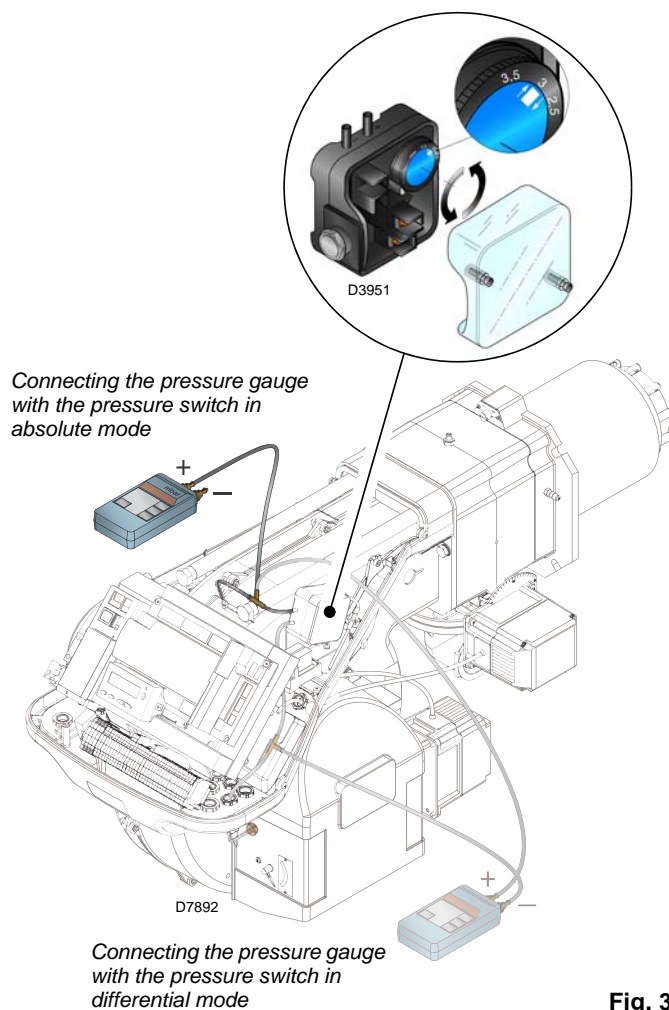

Fig. 31
- Adjust the air pressure switch (Fig. 31 at page 31) to the start of the scale.
Adjust the air pressure switch (Fig. 31) after having performed all other burner adjustments with the air pressure switch set to the start of the scale.
The connection of the pressure gauge is shown in Fig. 31. The standard configuration is that with the air pressure switch connected in absolute mode. Note the presence of a "T" connection, not supplied. In certain applications in strong depression situations, the connection of the pressure switch does not allow it to change over. In this case it is necessary to connect the pressure switch in differential mode, applying a second tube between the air pressure switch and the fan suction line mouth. In this case also, the pressure gauge must be connected in differential mode, as shown in Fig. 31.